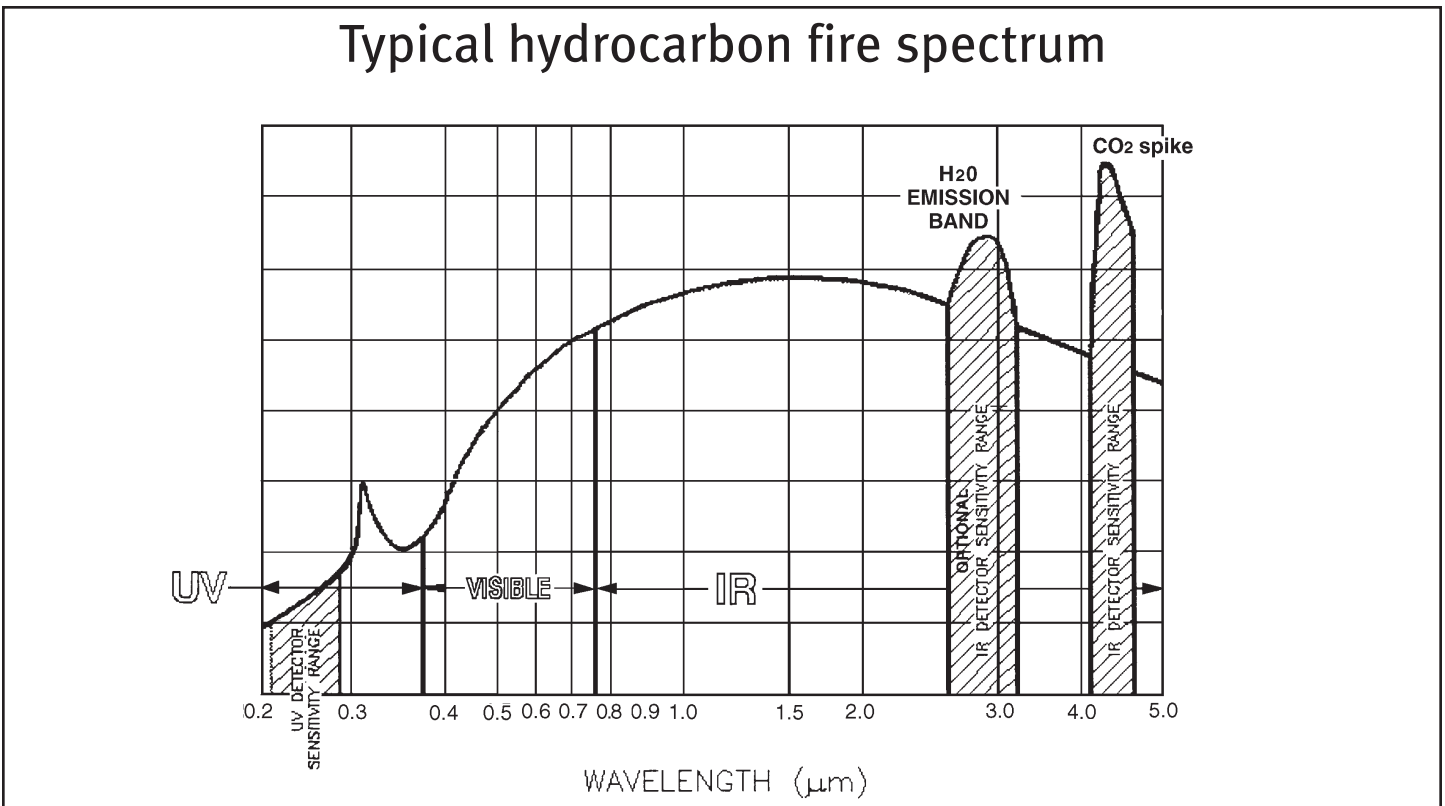

Fig 3. Typical hydrocarbon fire spectrum
The Model 860 flame detector not only requires the coexistence of UV and IR radiation, but also their presence in specific ratios. The ratio must conform to the radiation pattern of specific fires (see Figure 3). This patented Fire Event Analysis (FEA) ensures the highest possible discrimination between fire and non-fire sources.
**Note:** Reference Figure 3 for appropriate sensor wavelength regions to be used in Zeta calculation per NFPA 72 edition 2002 or later.
(Figure 3 shows nominal dimensions)